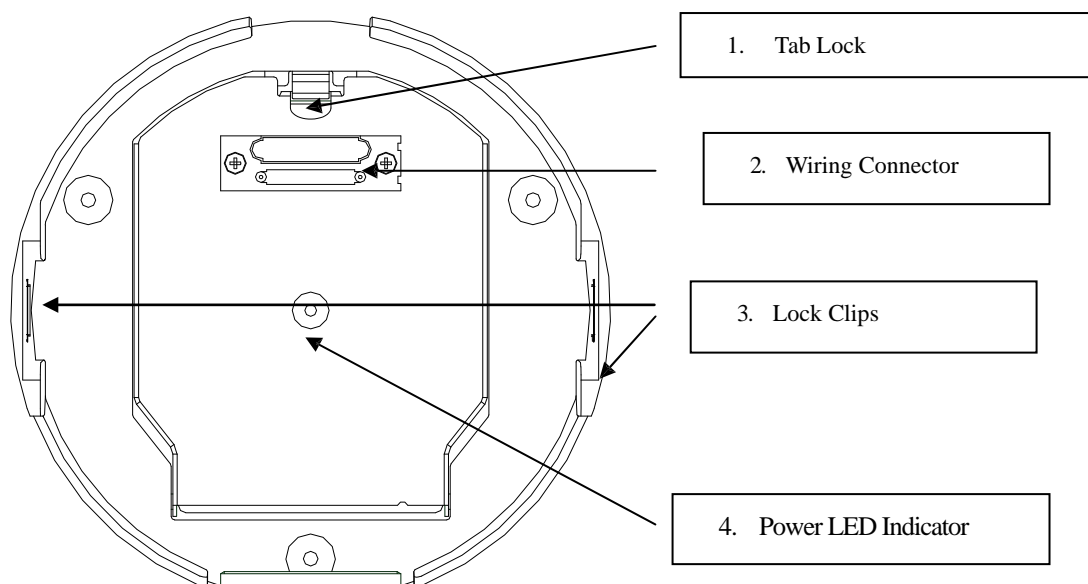
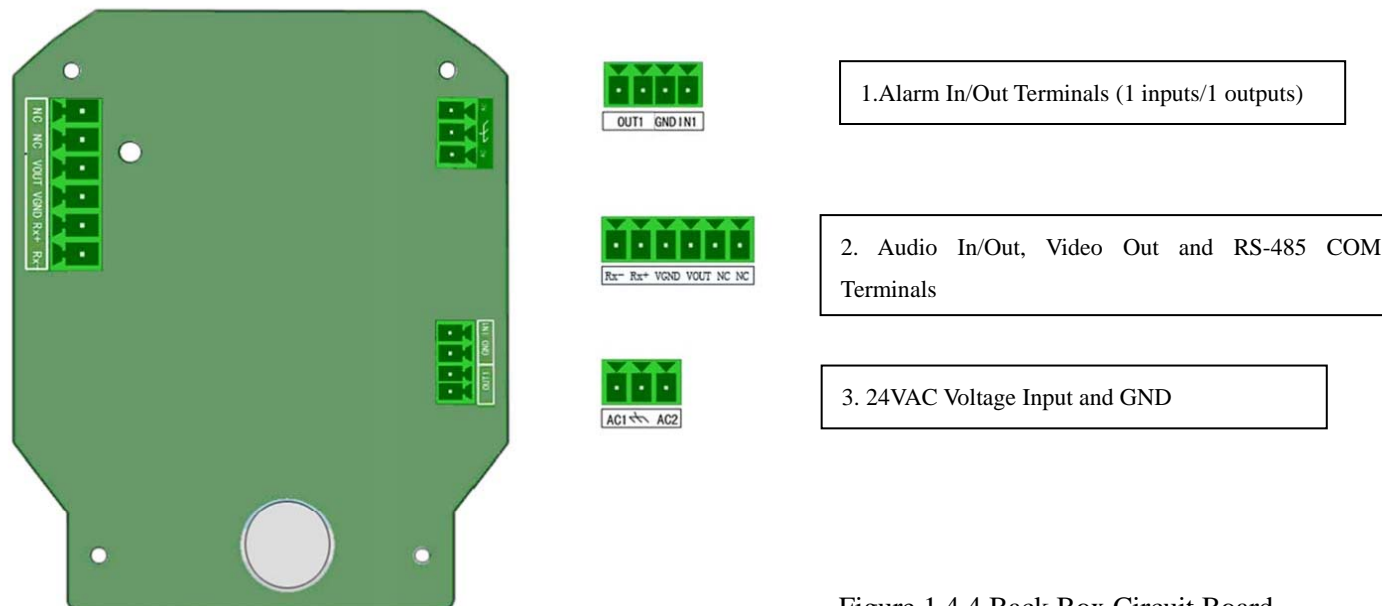

Figure 1.4.3 Back Box Interconnect Board
Figure 1.4.4 Back Box Circuit Board
Step 3: Push the tab locks on the back box interconnect board and lift the hinged door to the circuit board, as shown in Figure 1.4.3. Unplug the video cable, power cord and other cable terminals to avoid cables twisting during the back box installation. Refer to Figure 1.4.4 for the wiring terminals.